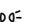

Fig. 54 Dashboard: Light switch
- Turn the light switch to **AUTO** ⇒ fig. 54.